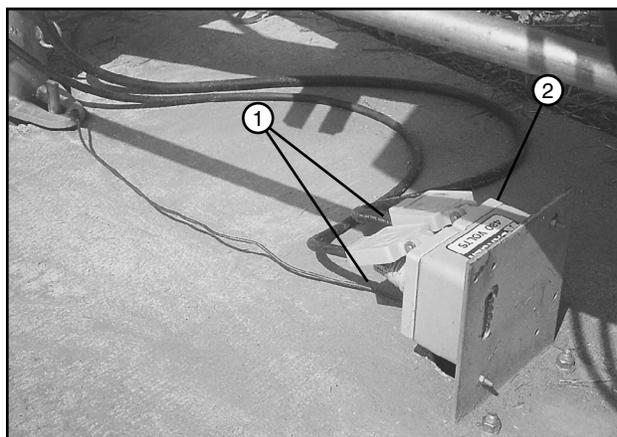

Figure 42-3 1. Power and Pump Control Plugs
25. Plug the power and pump control plugs into the receptacles. See Figure 42-3.